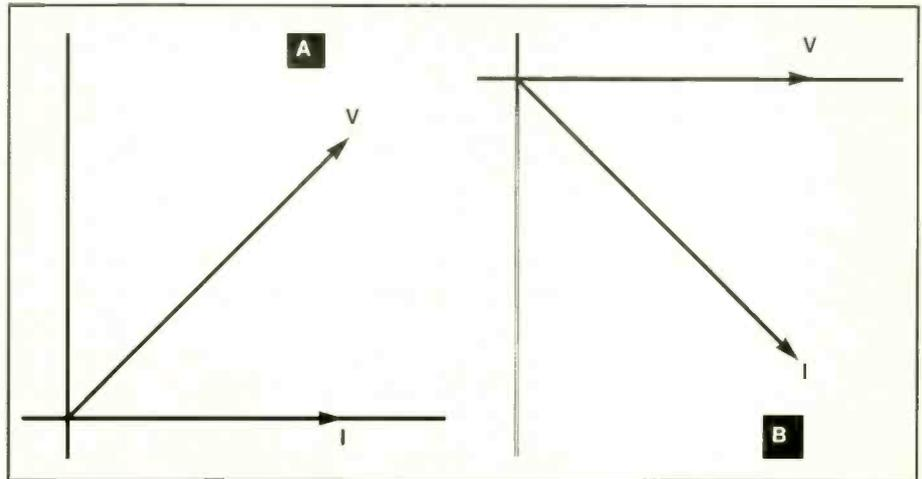

Figure 1. Which of these phasors is in the correct position to represent a series RC circuit?.
9. Refer to Figure 1. Which of the phasors is in the correct position to represent a series RC circuit?